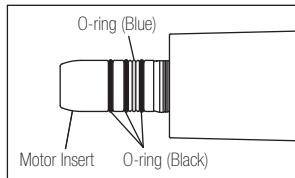

Fig. 3
- The blue O-Ring is thinner than the 3 black O-Rings. When inserting new O-rings, make sure they are inserted in the correct grooves as shown in the Fig. 3.